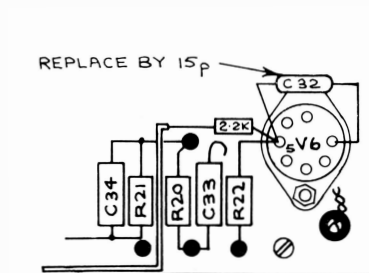

FIG 2.
- (1) Disconnect capacitor C33 ($.04\mu$) from pin 5 of valve V6 (6AL5). If this component is left in position the lead wire should be placed so that accidental contact cannot be made with any other part of the circuit. Replace C32 (47p) by a capacitor of 15p.
- (2) Remove the Brown audio lead from the pillar tag at the junction of resistors R20 (220K), R21 (100K) and capacitor C34 (1000p).
- (3) Connect the Brown audio lead via a 2.2K resistor (Dubilier BTT or equivalent) to pin 5 of valve V6 (6AL5). Keep the resistor close to pin 5 (see fig. 2).